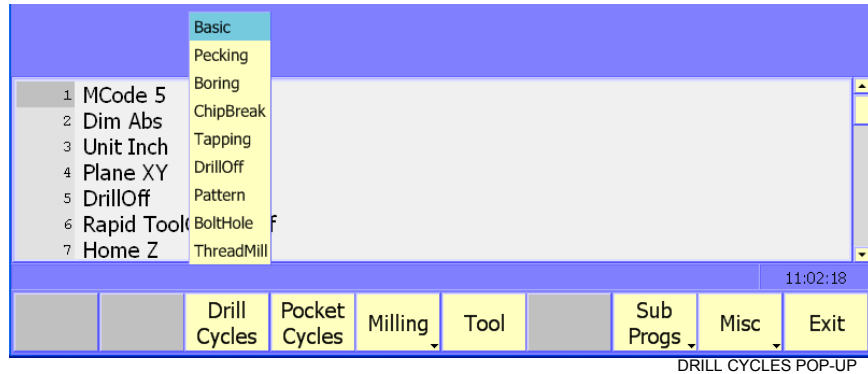

Figure 4-1, Drill Cycles (F3) Pop-up Menu
1. In Edit mode, press **Drill Cycles (F3)** to display the Drill Cycles pop-up menu. Refer to **Figure 4-1**.
1. In Edit mode, press **Drill Cycles (F3)** to display the Drill Cycles pop-up menu. Refer to Figure 4-1, Drill Cycles \(F3\) Pop-up Menu.
5. After programming the last drill move, press **Drill Cycles (F3)** to display the Drill Cycles pop-up menu. Refer to Figure 4-1, Drill Cycles \(F3\) Pop-up Menu.
1. In Edit Mode, press **Drill Cycles (F3)** to display the Drill Cycles pop-up menu. Refer to Figure 4-1, Drill Cycles \(F3\) Pop-up Menu.
5. To program a **DrillOff** block, press **Drill Cycles (F3)** to display the Drill Cycles pop-up menu. Refer to Figure 4-1, Drill Cycles \(F3\) Pop-up Menu.